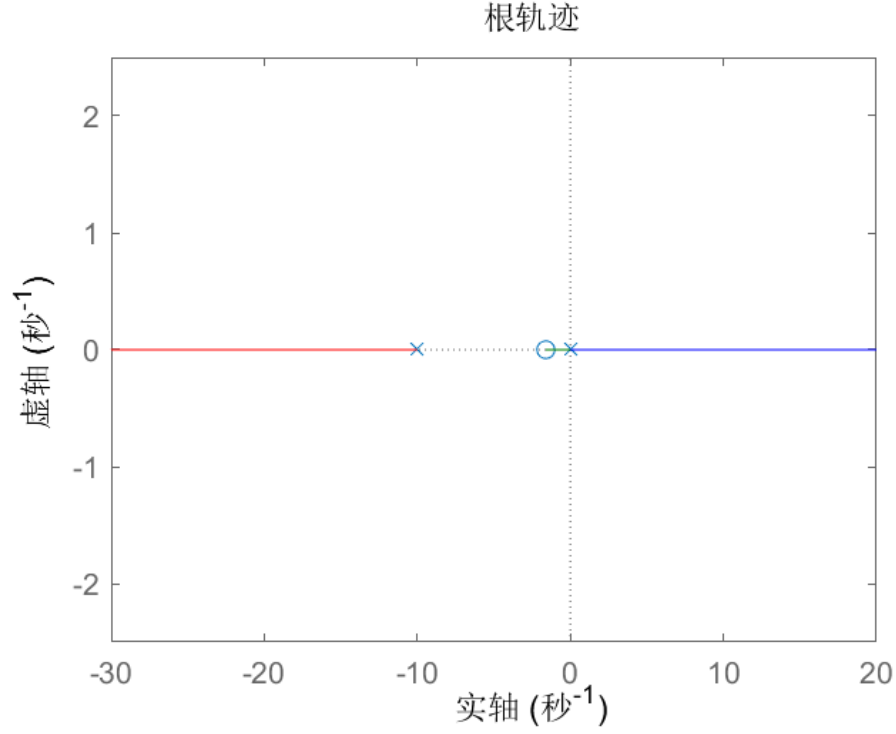

Figure 7: A control system with a PD controller
i.e., $2s^2 + 24.8s + 32 = 0$, this equation has no real roots, so there is no separation point and rendezvous point. The root locus is shown in Figure 7.